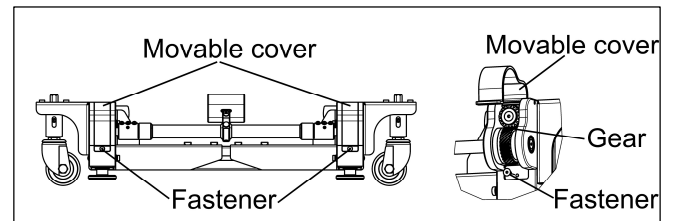

Fig. 25
- **Lubrication:** Schedule regular maintenance to open the movable covers and apply grease to the gears. Consistent lubrication of all moving parts will keep the SPIDER Mobile Base operating smoothly and reduce wear over time. Loosen the fasteners as shown in Fig. 25, and flip the cover upward for easy access to the gears.